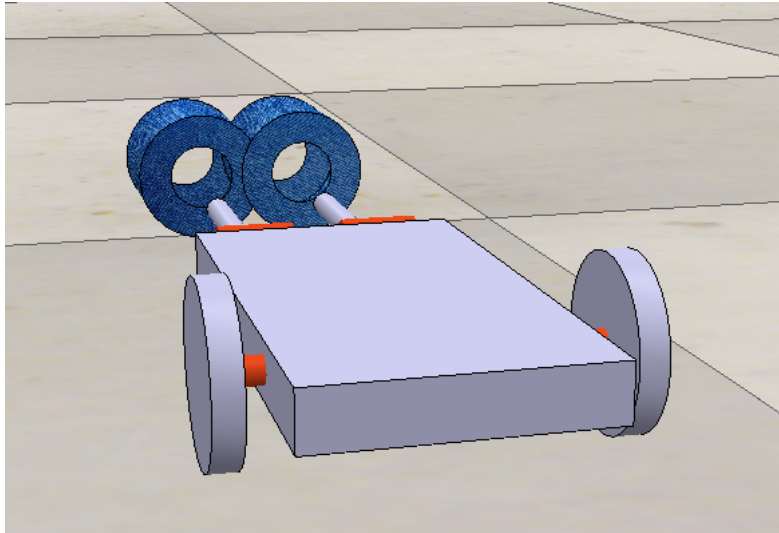

Fig. 4. The robot lining up prongs with objective holes.
- 8.2. The robot will line up the prongs with the holes of the objective when req. 5.2 is active (seen in Fig. 4).